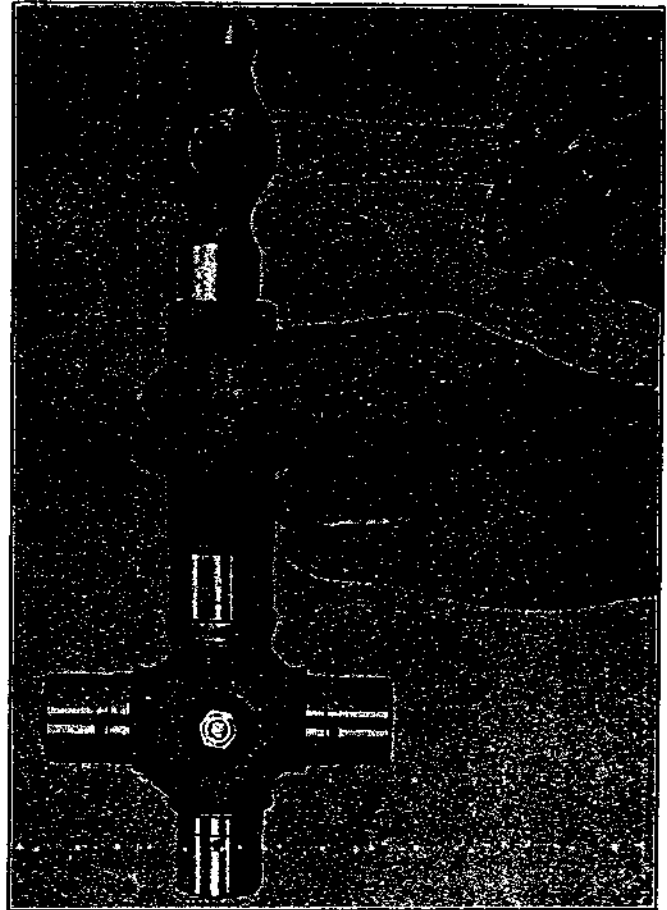

Fig. 6.
If joint appears to bind, tap lightly with a wooden mallet, which will relieve any pressure of the bearings on the end of the journals. When replacing sliding joint on shaft, be sure that trunnions in sliding and fixed yoke are in line. This can be checked by observing that arrows marked on splined sleeve yoke and splined stub shaft are in line. It is advisable to replace cork gaskets and gasket retainers on spider journals, using the tubular drift shown in Fig. 6.
1. Slacken nut of clamp bolt in end cover (Fig. 6) of steering box and release snap connector of